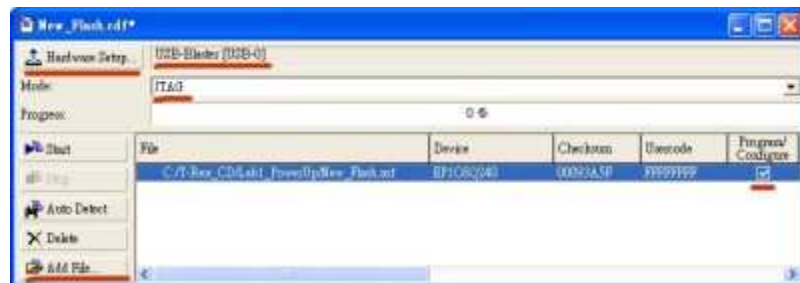

Figure 5.5. Bitstream Programming Window
- Once the programmer button is clicked, the following programming window shown in Figure 5.5 is popped up.